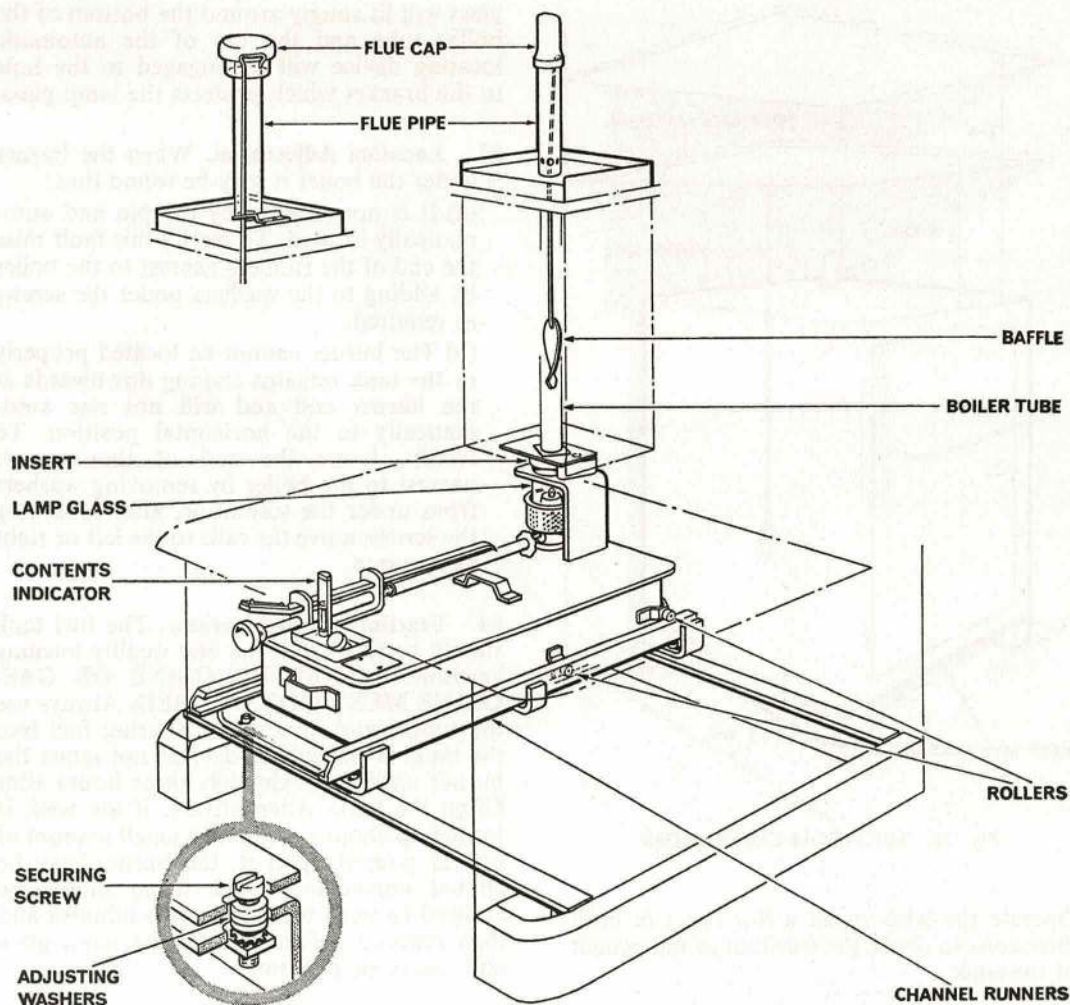

Fig. 19. HEATING EQUIPMENT
76. **Heating Equipment.** The general arrangement of the heating equipment is illustrated at Fig. 19. Other appliances may use bottled gas or electricity. The wick-type burner is fed by the tank which has a fuel capacity sufficient to operate for approximately one week. A mirror mounted on an extendible arm enables the flame to be seen from the front of the cabinet. Withdrawal and replacement of the tank and burner are simple operations, automatic location of the metal insert on the lamp glass under the boiler tube being provided.